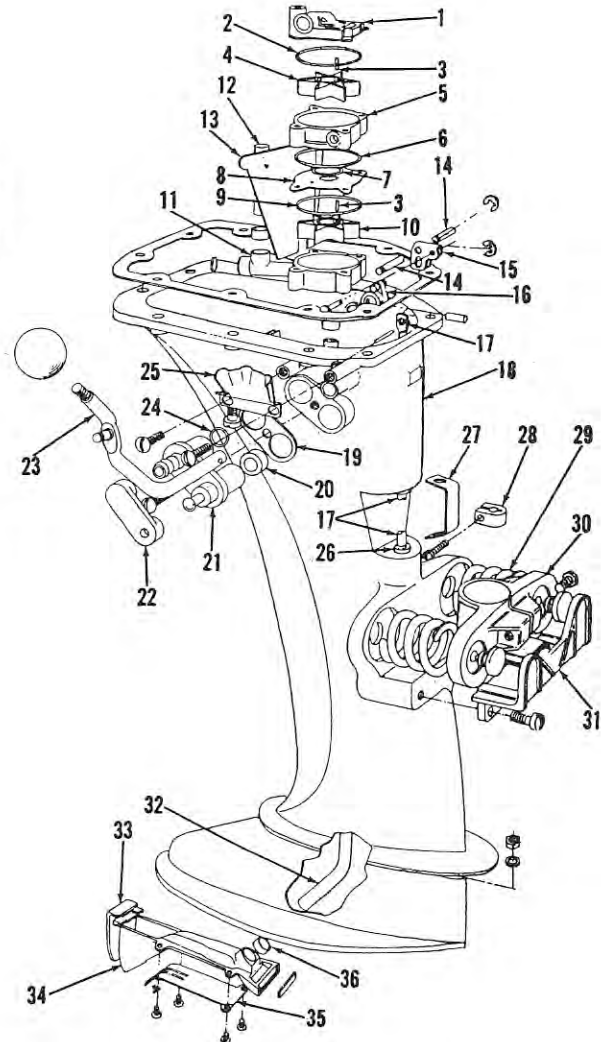

Fig. Mc36—Exploded view of recoil starter assembly.
Fig. Mc36 shows an exploded view of the recoil starter assembly. To renew the starter pawls (8) or friction spring (9), remove and invert the assembled starter on a bench. Remove friction spring (9) with snap-ring pliers and withdraw the pawls.